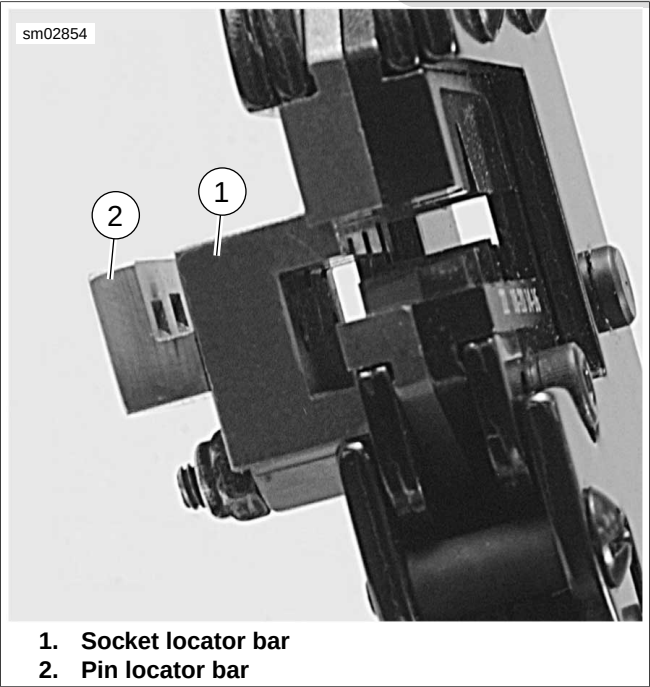

Figure A-31. Terminal Locator Bars
- Socket Terminal:** See Figure A-31. A socket terminal stops against the back face of the socket locator bar (1).